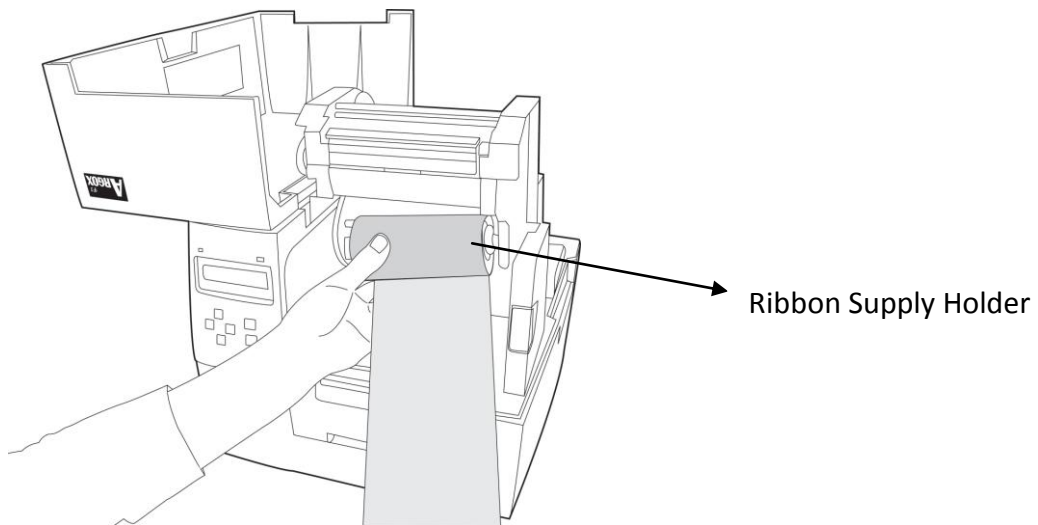

Figure 6
5. Insert the ribbon roll into the supply holder. First snap in the right side and then left side. Make sure the coating side of the ribbon is face down. (Figure 6)